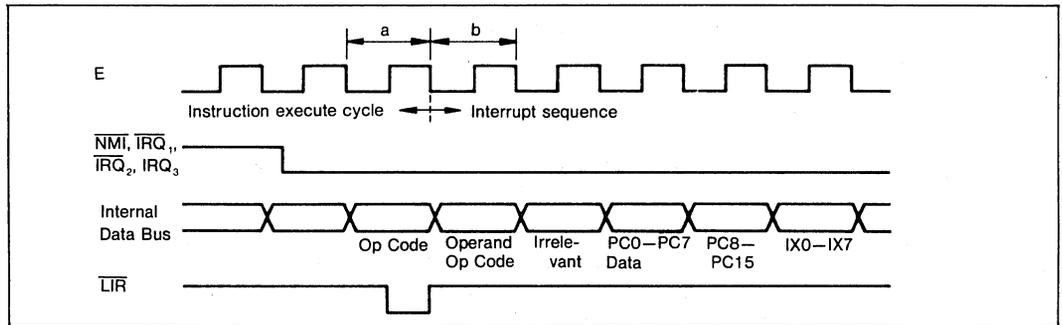

Figure III-13. Last Cycle Before Interrupt
1. Last instruction execution cycle just before the interrupt sequence (figure III-13).
- b. The first cycle of the interrupt sequence (b in figure III-13) is a dummy fetch cycle. In this cycle, there are two cases; an operand is on the data bus, or an opcode is on the bus. In both cases,  $\overline{\text{LIR}}$  output is not low.